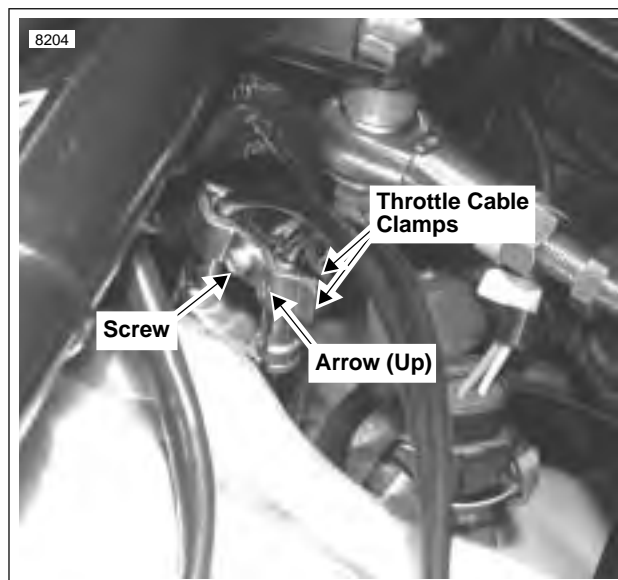

Figure 2-96. Throttle Cable Clamps
- See Figure 2-96. Attach throttle cable clamp to ferules with screw (arrow on clamp points up).